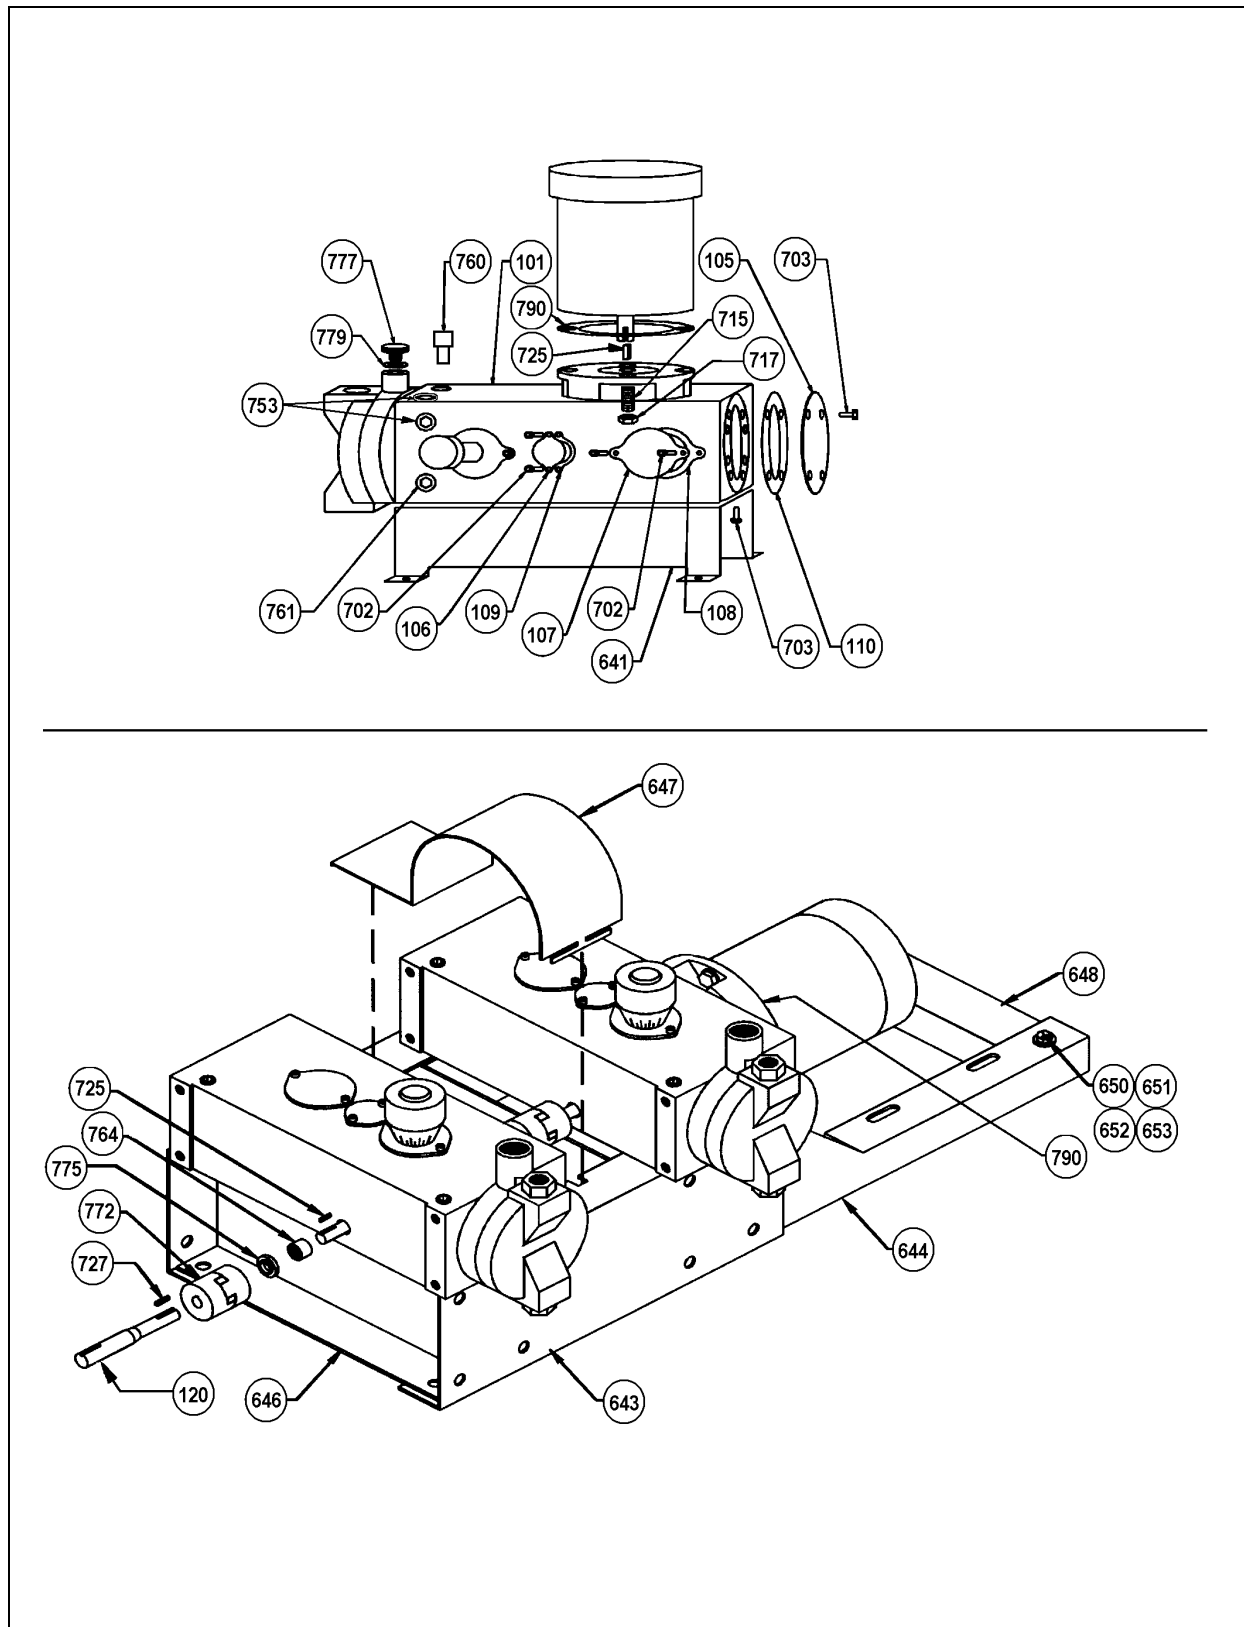

Figure 60. Covers, Drivecase & Multiplex Pump Accessories.
6.25 COVERS, DRIVECASE & MULTIPLEX PUMP ACCESSORIES (FIGURE 60)